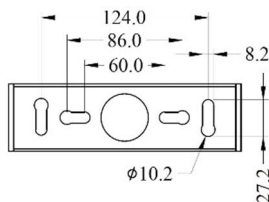

Figure 2
- ☞ Secure the wall mounting bracket to the mounting surface by using four fasteners (not provided). (Figures 2 and 4)